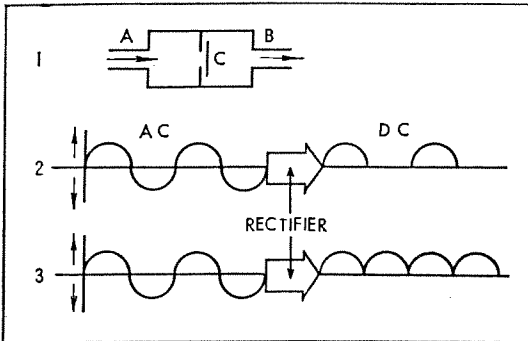

Fig. 5.45 Rectifying operation
Rectifying changes the direction of electric current which flows alternatively and periodically in opposite directions into a constant direction. This may be explained in terms of water flow as shown in Fig. 5.45 ①. When water pressure is applied alternatively from both side A and side B, water flow from B to A is stopped by a reverse limit valve and only flow from A to B occurs: The device performing the operation electrically is the rectifier. In methods for rectifying, there are, as shown in figures, halfwave rectification ② which allows one side of the alternating current to flow (the other being stopped), and full-wave rectification ③ in which currents of different directions are arranged in the same direction (Refer to Fig. 5.45)